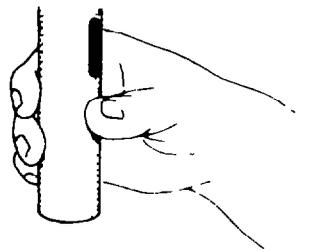

Fig. 31 — Installing Sleeve Assembly
4. Install the sleeve assembly in the press (see fig. 31).